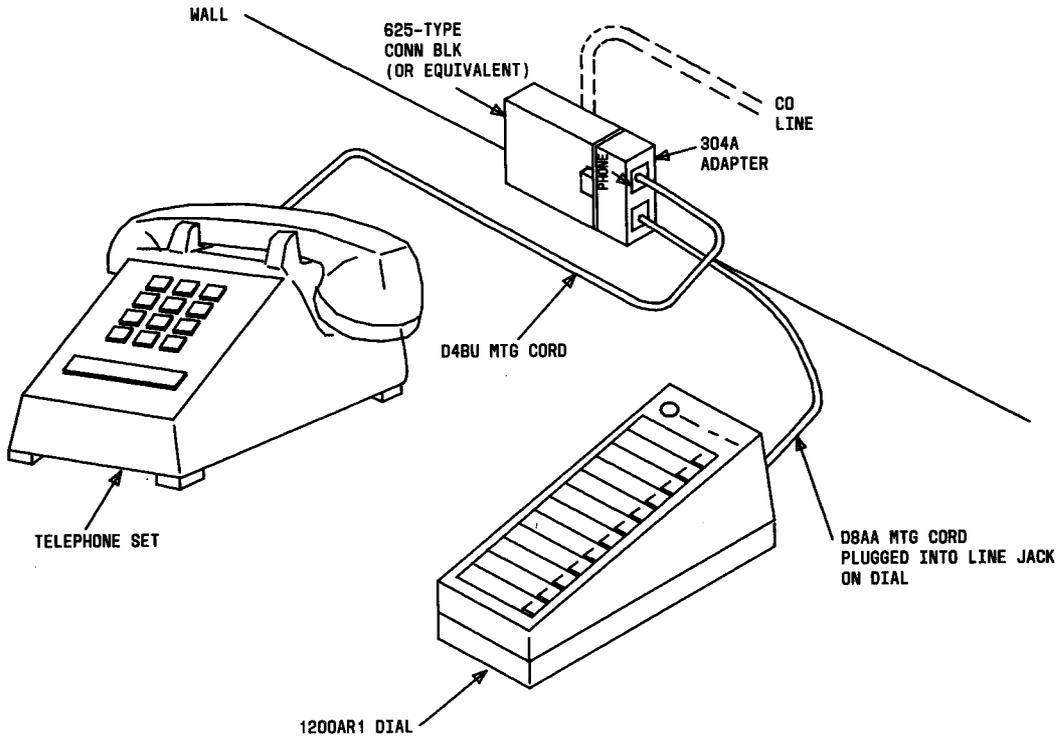

Fig. 5—Optional Installation for Single Line Modular Desk Type Telephone Set With D-180882 Kit of Parts
- (2) Plug one end of the D8AA mounting cord into the larger (8-conductor) jack on the adapter and other end of the cord into the LINE jack located under the battery cover of the adjunct dial (Fig. 5).
- (3) Plug one end of the standard telephone set D4BU mounting cord into the adapter PHONE jack and the other end into the telephone set mounting cord jack.